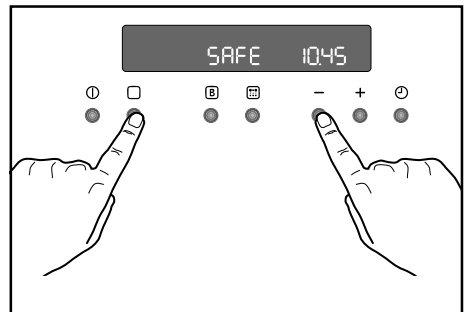

Fig. 13
1. Press buttons  and "" at the same time and keep them pressed for about 3 seconds. An acoustic signal will be emitted and the indication 'SAFE' will appear on the display (Fig. 13).